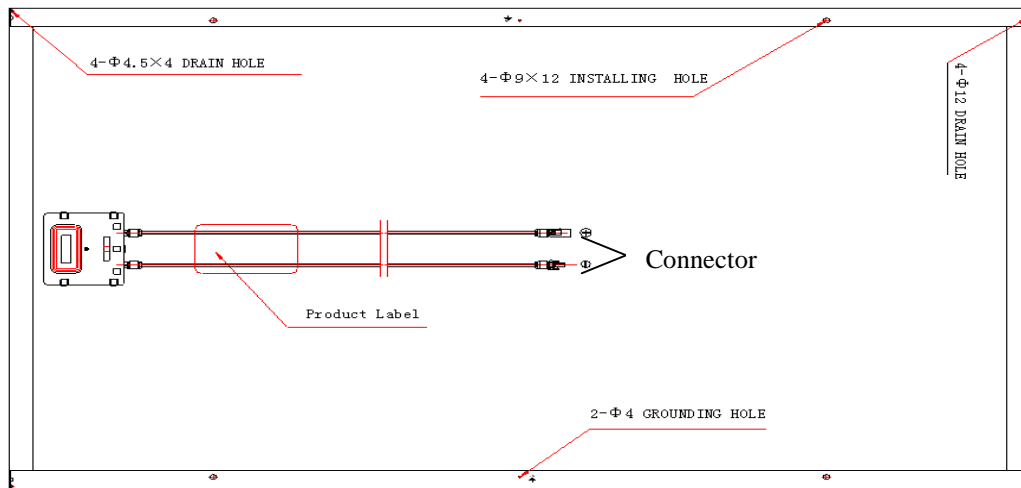

Figure 3 Backside of SOLAR Module
5. See solar module drawings for mounting and grounding holes locations (Figure 3).